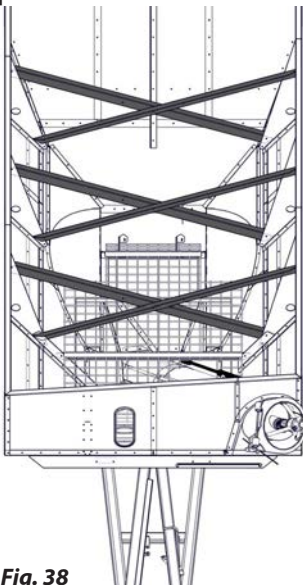
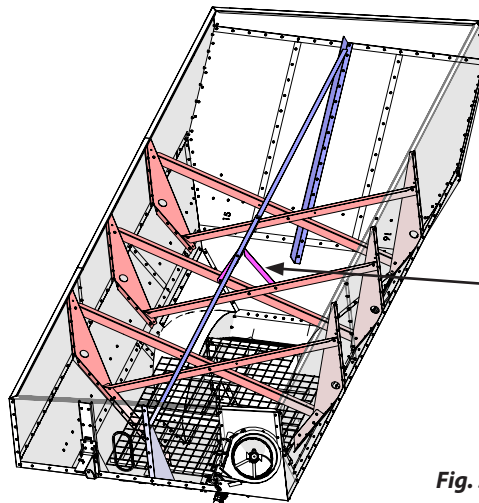

Fig. 38
Fig. 39
- Attach the 6 cross braces to the triangle braces according to the images in Fig 38.
- Use (15) M10 x 25 hex bolts and (15) M10 hex nuts.
- Attach the front to back cross braces according to the image in Fig 39.
- Use (10) M10 x 25 hex bolts and (10) M10 hex nuts.
- Attach the Extra Center Brace Support using (3) M10 x 25 hex bolts and (3) M10 hex nuts